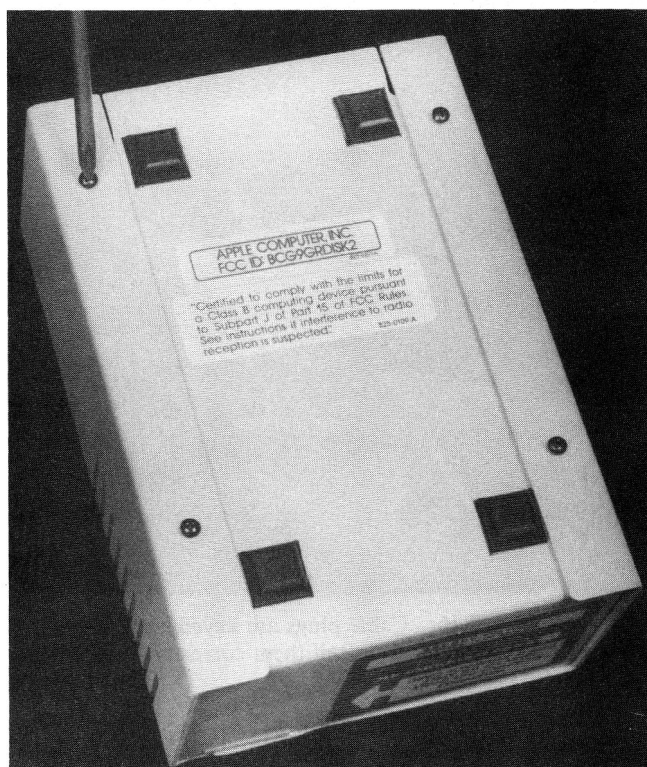

Fig. 8-18. Remove the four Phillips head screws.
6. Remove the four Phillips head screws as shown in Fig. 8-18.